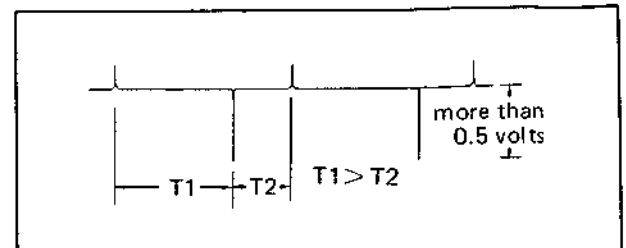

Fig. 5-2 Control signal
3. Confirm that T1 is greater than T2 (Fig. 5-2). Perform self-recording and playback, then check again.
5. Check that negative level is more than 0.5 V as shown in Fig. 5-2.